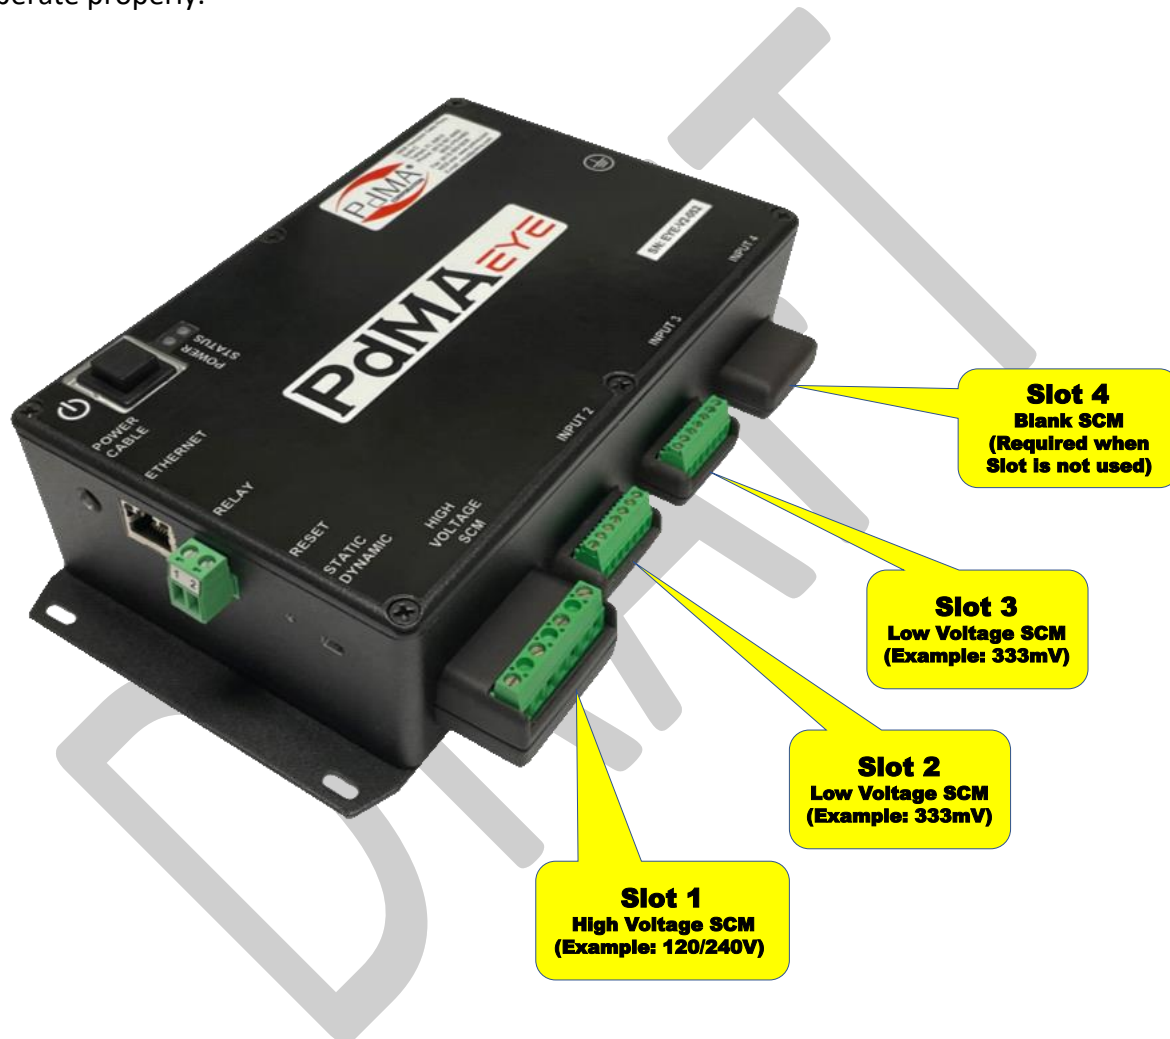

Figure 2 - PdMA_{EYE} SCM Slots (Example)
The PdMA_{EYE} has 4 Slots for Signal Conditioning Modules (SCMs) as shown in Figure 2. SCMs are used to condition signals such as Voltage, Current, or Transducer Outputs to a ⚠3.0V Peak for the PdMA_{EYE} Data Acquisition System in the PdMA_{EYE} Base Module. Although there are a variety of SCMs that can be provided for each slot, a typical configuration may be (1) 3 Phase Voltage SCM such as the 120/240V (Slot 1), (2) 333mV SCMs (Slots 2 & 3), and (1) Blank SCM (Slot 4). A slot cannot be left open, a SCM is required to be in each slot for the system to operate properly.